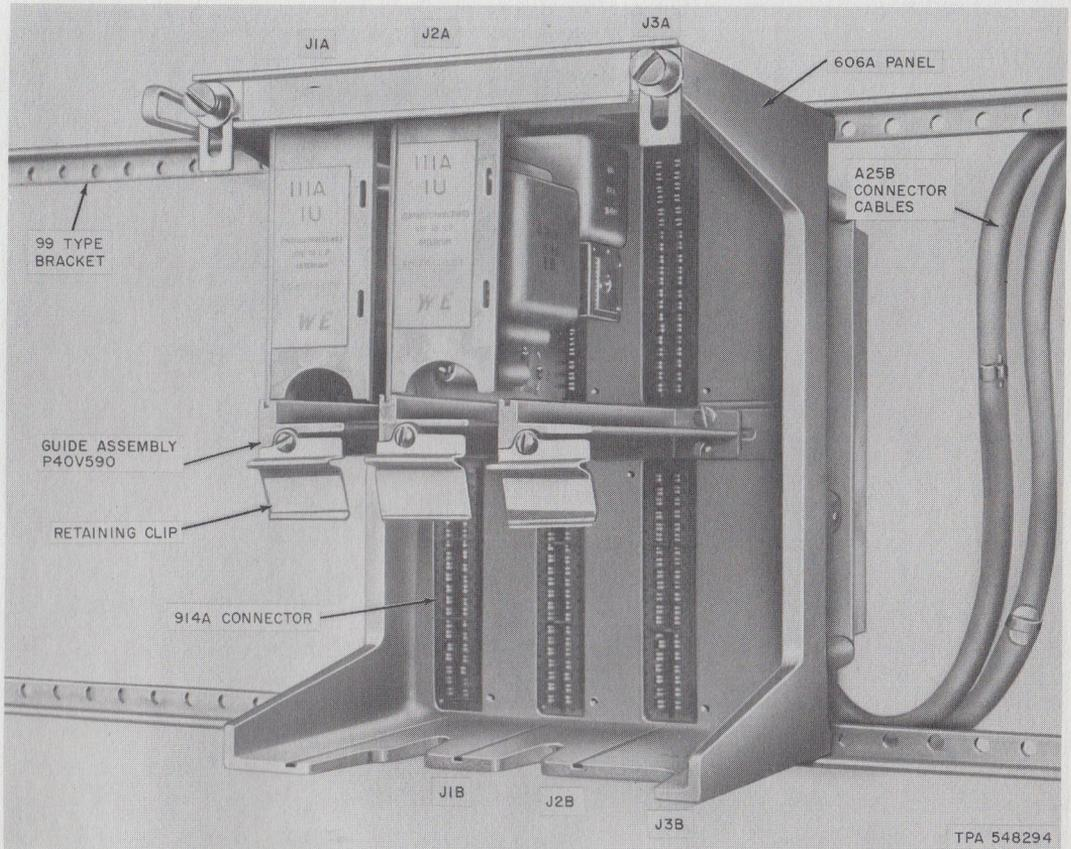

Fig. 4—606A Panel With 111A Interconnecting Unit
◆ *For 606A Panel, Fig. 4 and 5*
3.14 Two A25B connector cables are connected to the P1 and P3 plugs on the rear of the 606A panel. P1 connects to the upper three 111A IUs and P3 connects to the three lower 111A IUs as shown in Fig. 4.